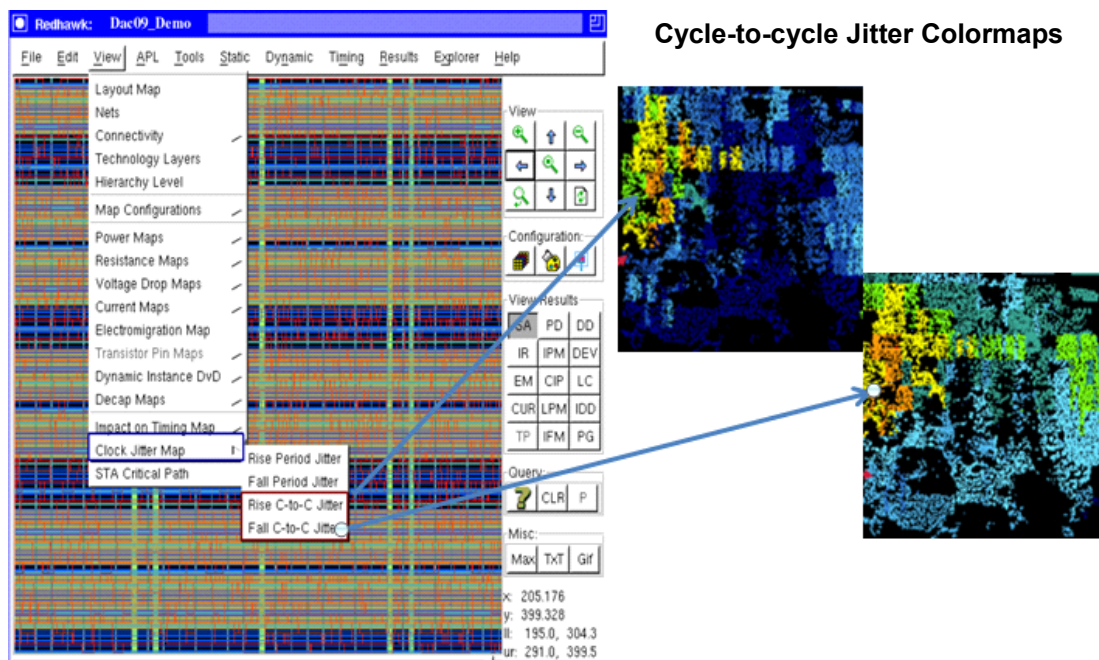

Figure 8-20 Instance cycle-to-cycle jitter colormaps
- Instance cycle-to-cycle jitter colormaps - Click on **View->Clock Jitter Map->Rise/Fall C-to-C Jitter**. The selected colormap is displayed (see Figure 8-20). This can also be displayed using the TCL 'show jitter' command.